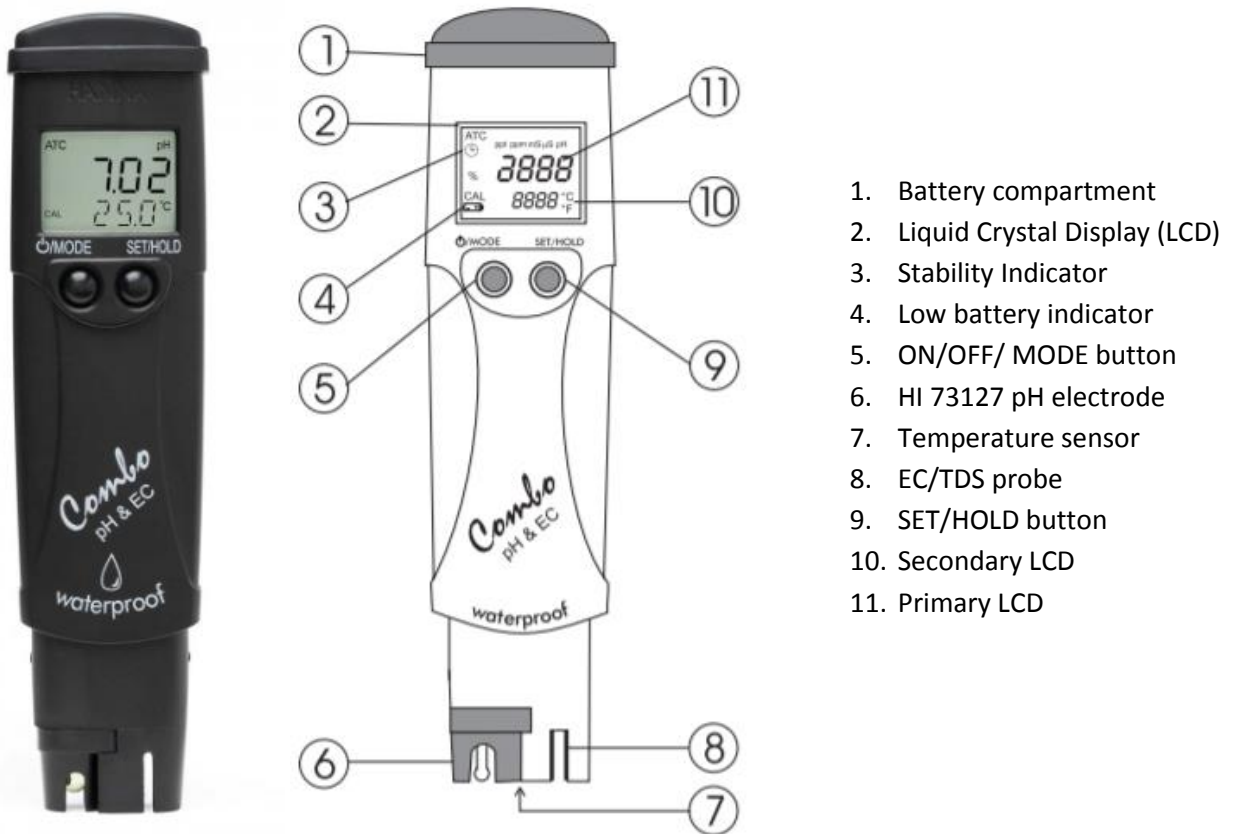

Fig 1 – pH / Conductivity meter Hanna HI-98129
6.1.6 Turn the meter ON by pressing and holding the **MODE** button for 2-3 seconds (Fig. 1). The **SET/HOLD** button can be used to alternate between the pH function, and the conductivity function in both $\mu\text{S}/\text{cm}$ or ppm.